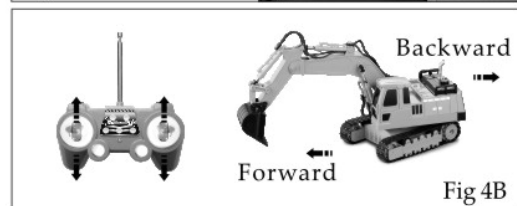

Fig 4B
2. Forward/Backward : push the left and right handle of controller ahead at the same time, the excavator will go ahead with a mechanic sound To move the left and right trigger back at the same time, the excavator will go back with working mechanic and simulate back sound (Fig 4B)